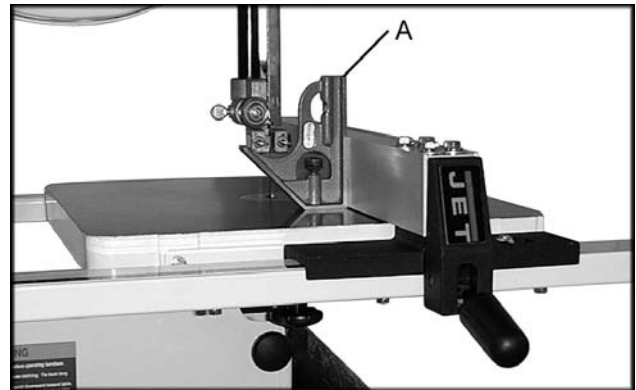

Fig. 6
9. The front rail, rear rail and sliding pad can be raised or lowered to allow for an equal gap. At the same time make sure the fence is perpendicular to the table top (A, Fig. 6).